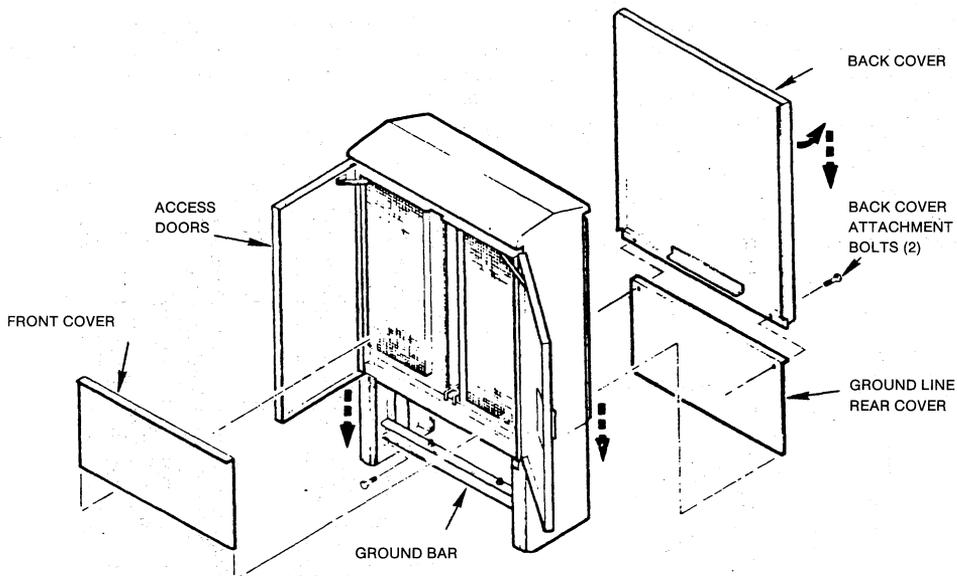
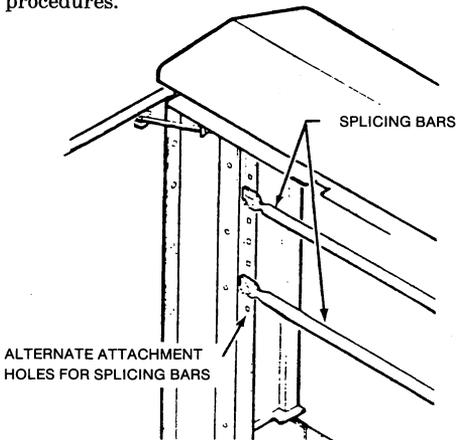

FIGURE 9
FIGURE 10
3.01 Opening Cabinet — cabinet doors using a standard 7/16" terminal wrench (216 tool). Swing doors open until door stop drops in place. Lift up and remove the ground line front access cover. Place cover where it will not be damaged. Remove nuts and washers from rear cover attachment bolts as shown in Figure 9. Pull out on bottom edge of rear cover and remove it by allowing it to drop out from underneath the top lip of cabinet. Place rear cover where it will not be damaged. Lift up and remove rear ground line access cover.
3.02 Closing Cabinet (see Figure 9) — Pick up the rear ground line access cover. Position with the flange on top pointing out and then slide into place. Pick up the rear cover and position it so that the flange with the attachment bolt holes down. Place the cover on the cabinet as shown in Figure 9 and slide it up under the cabinet top until the bottom is seated over the rear ground line cover flange. Line up holes and push in the cover attachment bolts. Hold the bolts in place with one hand and reach around the front and replace the nuts. Snug up nuts but do not over torque. Pick up the front ground line access cover. Position it with the flange on top pointing out and then slide it in place. Push door stops to release and close doors, left hand door first. Turn latch handle down until a click is heard and the handle cannot be returned to a horizontal position.
4.01 Cable Preparation — Open cabinet per Paragraph 3.01. Remove ground bar by taking out one bolt in each end (see Figure 9). Using standard procedures, remove cable sheath to the point required for proper plugging and grounding. Install ground clamp and strap and then plug or block cable as required. After plug or block is poured, replace ground bar. Cable bonding strap may be terminated to studs on ground bar or to studs accessible from front of unit. Doing the latter would allow moving the grounds without having to get into the ground cover. By placing attachment bolts in proper position (see Figure 10), locate the two splicing bars to accommodate standard splicing procedures.